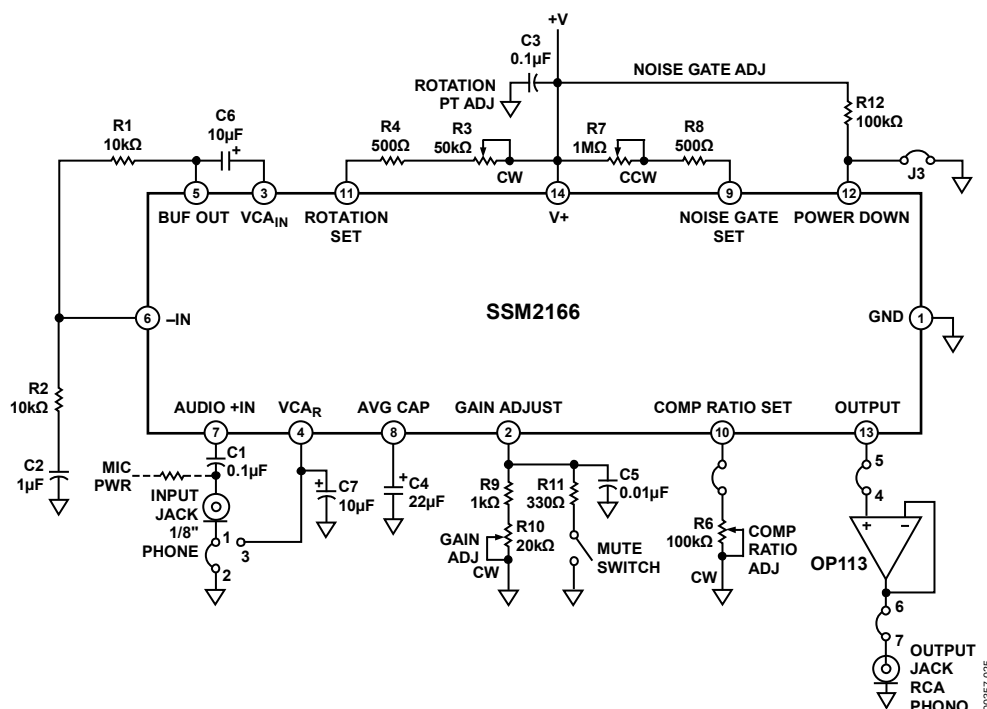
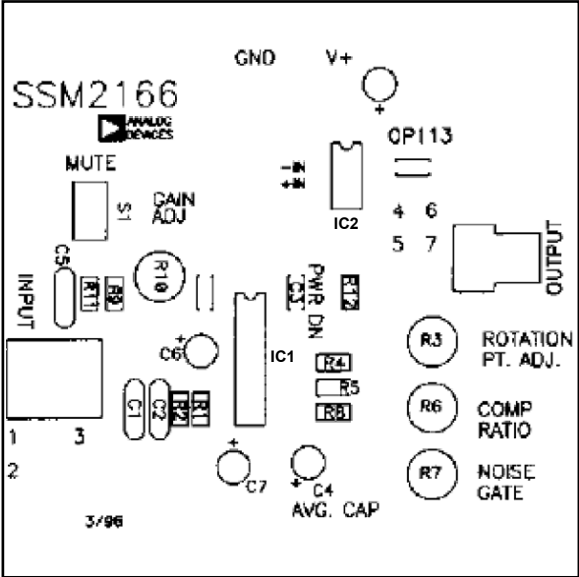
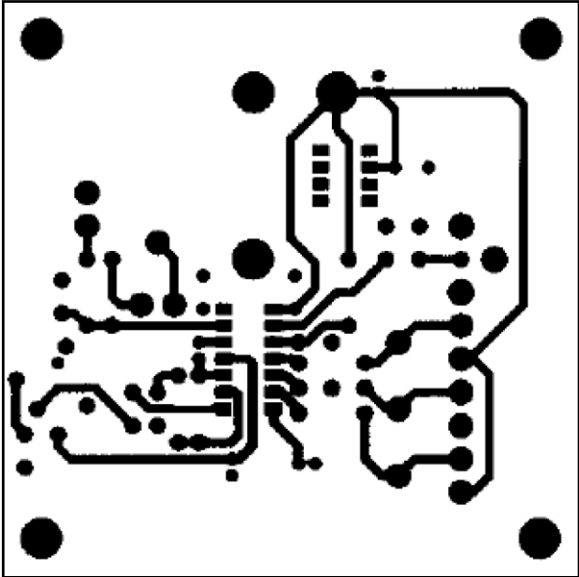
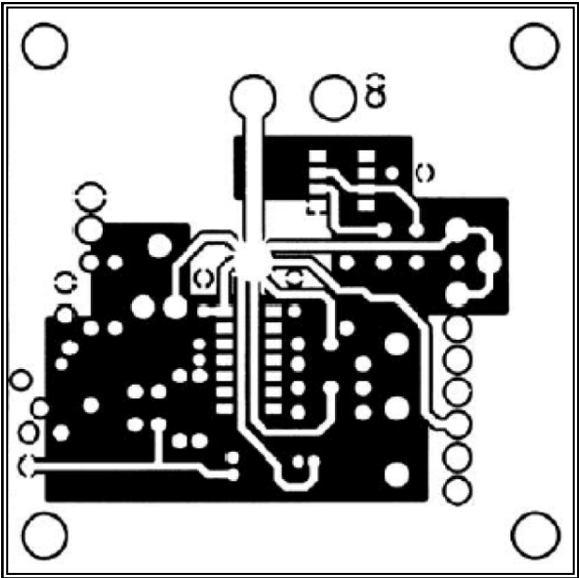

Figure 26. Evaluation Board Schematic
Figure 27. Evaluation Board Topside Silkscreen (Not to Scale)
Figure 29. Evaluation Board Backside Metallization (Not to Scale)
Figure 28. Evaluation Board Topside Metallization (Not to Scale)
The gain of the VCA at the rotation point is set by the value of a resistor, R_{GAIN} , connected between Pin 2 and GND. The relationship between the VCA gain and R_{GAIN} is shown in Figure 6. The AGC range can be as high as 60 dB. The VCA_{IN} pin (Pin 3) is the non-inverting input terminal to the VCA. The inverting input of the VCA is available at the VCA_R pin (Pin 4) and exhibits an input impedance of 1 k Ω , as well. As a result, this pin can be used for differential inputs or for the elimination of grounding problems by connecting a capacitor whose value equals that used in series with the VCA_{IN} pin to ground (see Figure 26 for more details).
Changing the scaling of the control signal fed to the VCA causes a change in the circuit compression ratio, r . This effect is shown in Figure 20. The compression ratio can be set by connecting a resistor between the COMP RATIO SET pin (Pin 10) and GND. Lowering R_{COMP} gives smaller compression ratios as shown in Figure 19, with values of approximately 17 k Ω or less resulting in a compression ratio of 1:1. AGC performance is achieved with compression ratios between 2:1 and 15:1 and is dependent on the application. A 100 k Ω potentiometer can be used to allow this parameter to be adjusted. On the evaluation board (see Figure 26), an optional resistor can be used to set the compression equal to 1:1 when the wiper of the potentiometer is at its full counterclockwise (CCW) position.
- A single-point (star) ground implementation is recommended in addition to maintaining short lead lengths and PCB runs. The evaluation board layout shown in Figure 27, Figure 28, and Figure 29 demonstrates the single-point grounding scheme. In applications where an analog ground and a digital ground are available, the SSM2166 and its surrounding circuitry should be connected to the analog ground of the system. Because of these recommendations, wire-wrap board connections and grounding implementations should be avoided.
A schematic diagram of the SSM2166 evaluation board is illustrated in Figure 26. As a design aid, the layouts for the topside silkscreen and the topside and backside metallization layers are shown in Figure 27, Figure 28, and Figure 29. Although not shown to scale, the finished dimension of the evaluation board is 3.5 inches by 3.5 inches and comes complete with pin sockets and a sample of the SSM2166.
Signal sources are connected to the SSM2166 through a 1/8-inch phone jack where a 0.1 μF capacitor couples the input signal to the AUDIO +IN pin (Pin 7). As shown in Figure 26 and in microphone applications, the phone jack shield can be optionally connected to the ground plane of the board (Jumper J1 inserted into the board socket for Pin 1 and Pin 2) or to the VCA_R input at Pin 4 (J1 inserted into the board socket for Pin 1 and Pin 3). If the signal source is a waveform or function generator, the phone jack shield should be connected to ground.
To illustrate how easy it is to program the SSM2166, a practical example is provided. The SSM2166 was used to interface an electret-type microphone to a postamplifier. The evaluation board or the circuit configuration shown in Figure 26 can be used. The signal from the microphone was measured under actual conditions to vary from 1 mV to 15 mV. The postamplifier requires no more than 500 mV at its input. The required gain from the SSM2166 is, therefore
When building a breadboard, keep the leads to Pin 3, Pin 4, and Pin 5 short. An evaluation board is available from an Analog Devices sales representative. The R and C designations refer to the demonstration board schematic of Figure 26 and the parts list in Table 7.